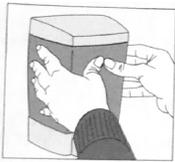

figure 3
2. Peel off paper from back of tape (supplied). Press dispenser firmly to the wall and hold for at least 30 seconds to make sure tape has completely adhered to the wall. (Figure 3)